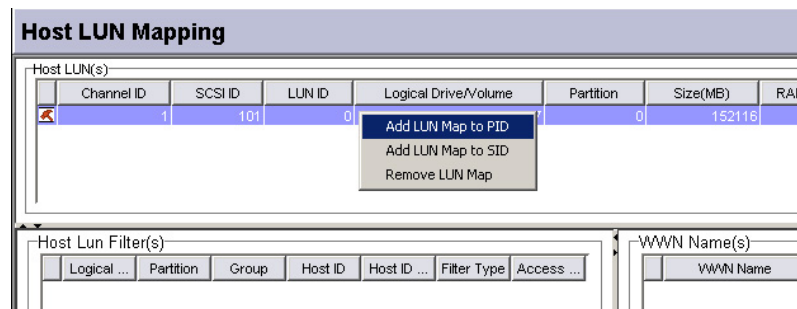

Figure 10-6: Delete LUN Command
**Step 2.** **Left-click** on a configured LUN and then **right-click** on the adjacent area. A command menu displays as shown in *Figure 10-6*. Select **Remove LUN Map** to complete the process.